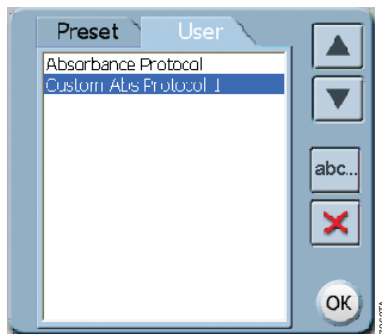

Figure 9. User-defined protocols list.
- e. Modified protocols are saved in the User list. See Figure 9.